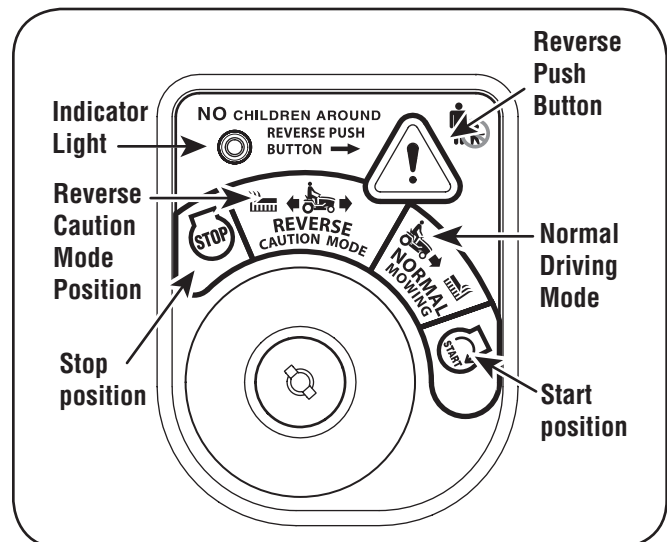

Figure 5-1
2. Turn the key from the NORMAL MOWING (*Green*) position to the REVERSE CAUTION MODE (*Yellow*) position of the key switch module. See Fig. 5-1.
3. Depress the REVERSE PUSH BUTTON (*Orange, Triangular Button*) at the top, right corner of the key switch module. The red indicator light at the top, left corner of the key switch module will be ON while activated. See Fig. 5-1.